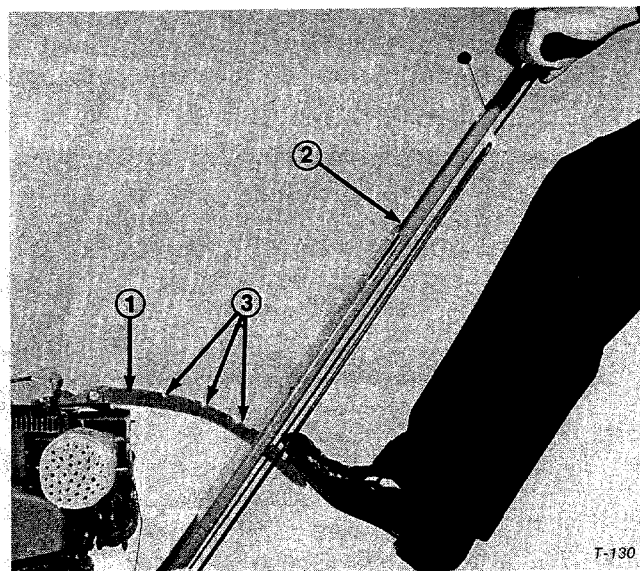

Figure 4
2. Raise handle assembly, fit adjusting bar through slotted hole in handle and latch handle into notch in adjusting bar (Fig. 4).
Adjust the height of the handle to suit the operator's height. Grasp the handle grips, push down on the adjusting bar with your foot and move handle assembly up or down until most comfortable position is achieved (Fig. 4). Lift foot and allow handle to lock into notch in adjusting handle (Fig. 4).